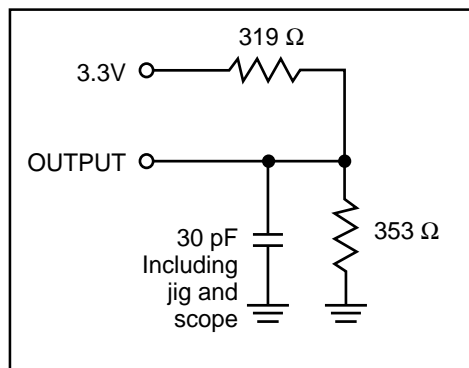

Figure 1.
1. Test conditions assume signal transition times of 3 ns or less, timing reference levels of 1.5V, input pulse levels of 0 to 3.0V and output loading specified in Figure 1.
| Output Load | See Figures 1 and 2 |